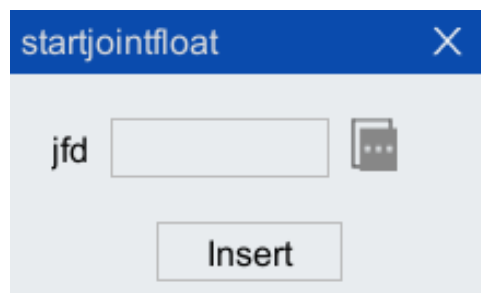

Figure 5-5 Parameter configuration interface
Step2. Click [startjointfloat] in the selection menu, and the configuration interface shown in Figure 5-5 will pop up.